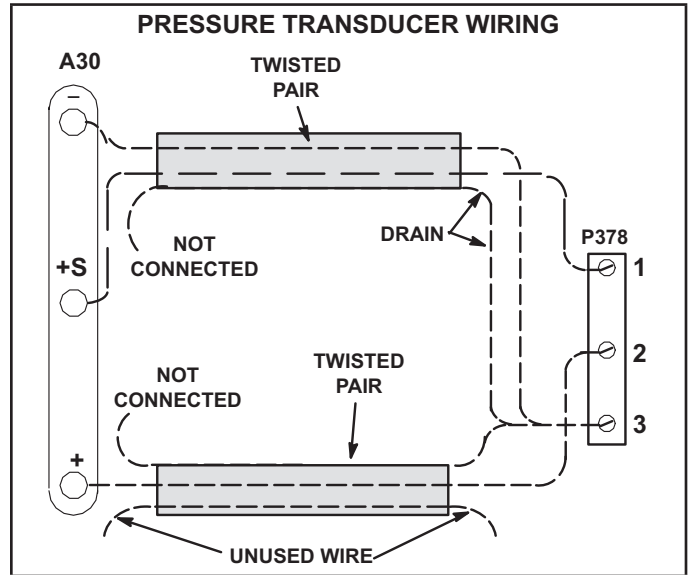

FIGURE 44
- 2 - Two twisted pairs of shielded cable must be used to connect the pressure transducer. See FIGURE 44. J/P378 connector is hanging in the control box.